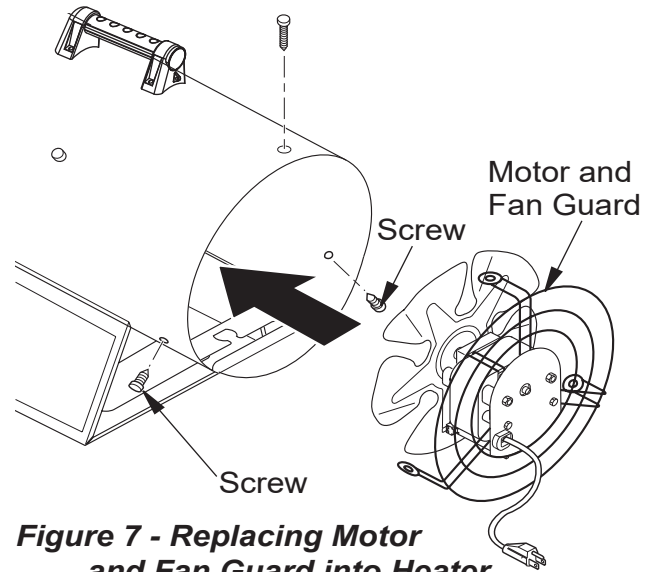

Figure 7 - Replacing Motor and Fan Guard into Heater
5. Place the motor and the fan guard into the rear of the heater shell. Make sure the power cord is properly located (see Figure 7).
6. Insert three screws through the heater shell and into fan guard (see Figure 7). Tighten screws firmly.